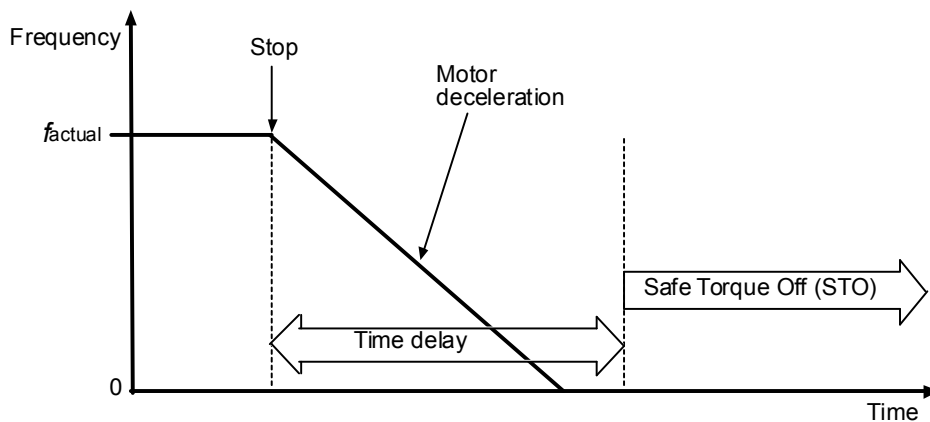
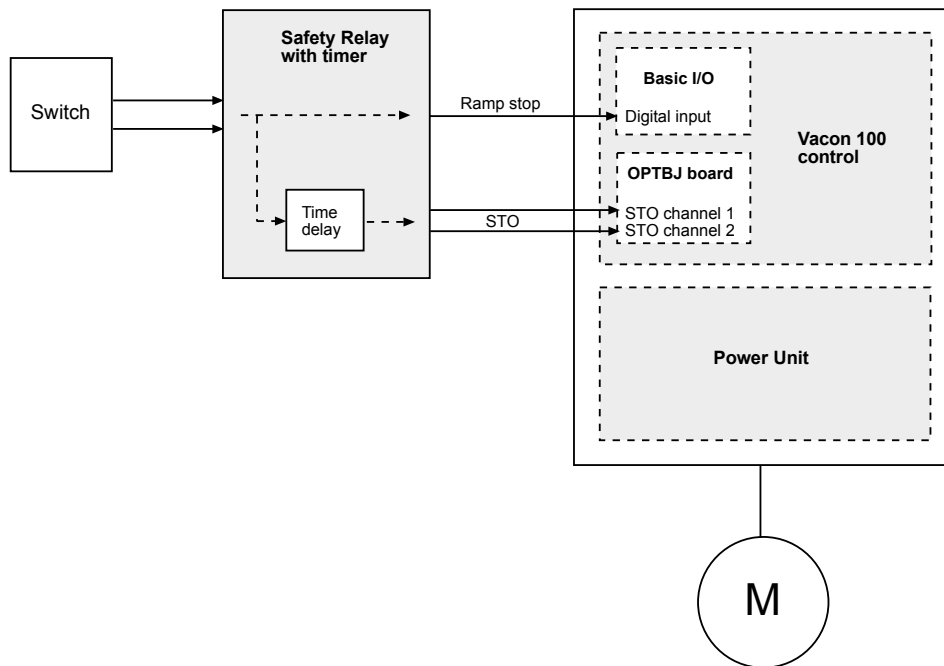

Figure 5. The principle of Safe Stop 1 (EN 61800-5-2, SS1 type c)
Figure 7. The connection principle of Safe Stop 1 (SS1)
Figure 7 shows the connection principle of Safe Stop 1 safety function, as specified in figure 5.
- A separate digital output from the safety relay is connected to a general digital input of the Vacon 100 drive. The general digital input must be programmed to execute the drive stop command and initiates without time delay the drive stop function (must be set to "stop by ramp") and causes motor deceleration. If the SS1 behavior of Figure 5 is required then it must be ensured that the ramp stop is activated when the stop signal is received. It is the responsibility of the system designer to verify this.